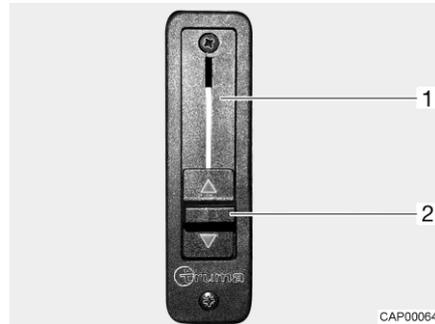

Fig. 39 Sliding regulator for branch block
- Push the sliding regulator (Fig. 39,2) fully upwards. The branch block (Fig. 39,1) is open. The living area heater also heats the windscreen.
- Push the sliding regulator (Fig. 39,2) fully downwards. The branch block is closed. The living area heater and the heater of the base vehicle are disconnected from each other.